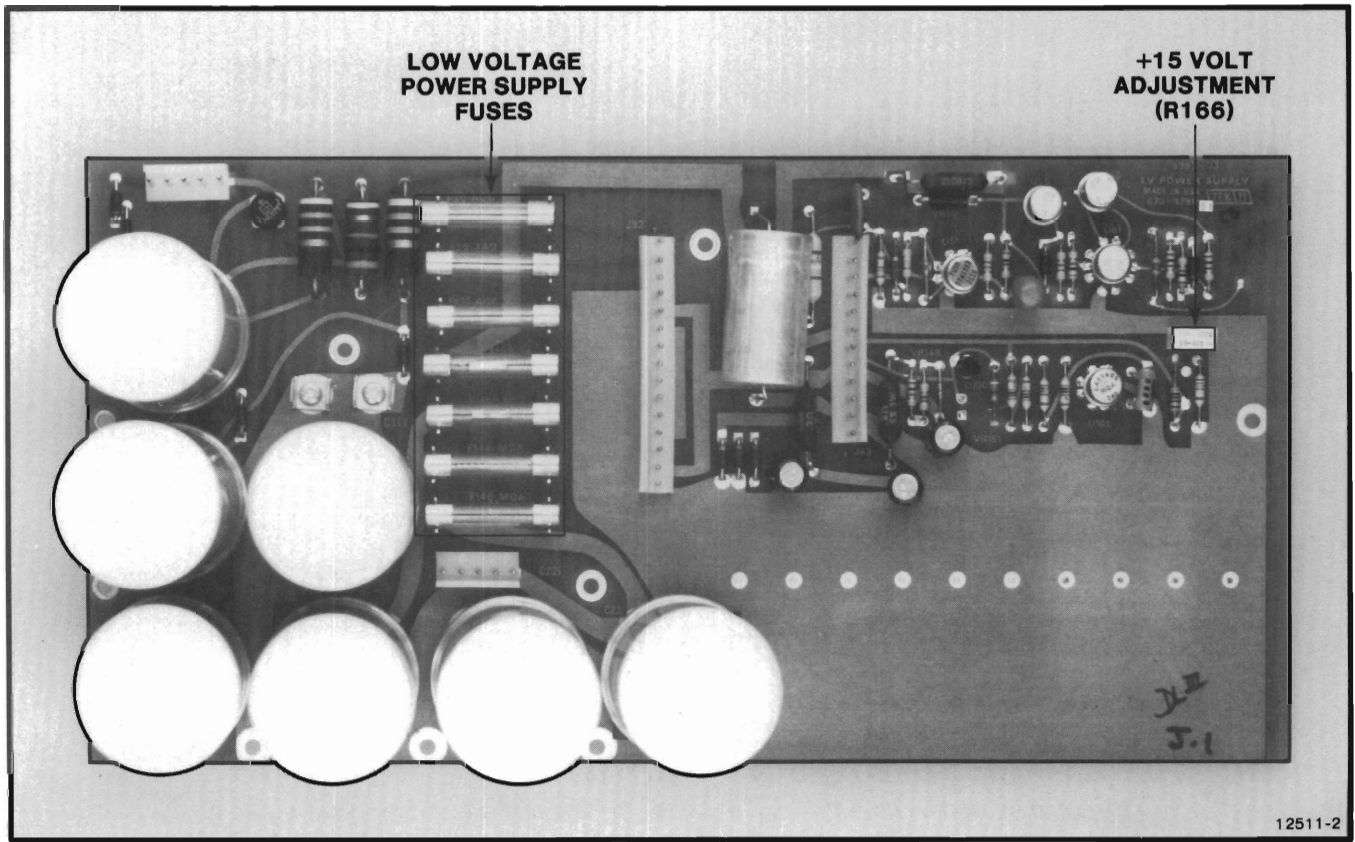

Figure 5-9. +15V Adjustment Point.
5. Adjust R166 (Figure 5-9) for a reading of 14.97 to 15.03V at J530 pin 12.